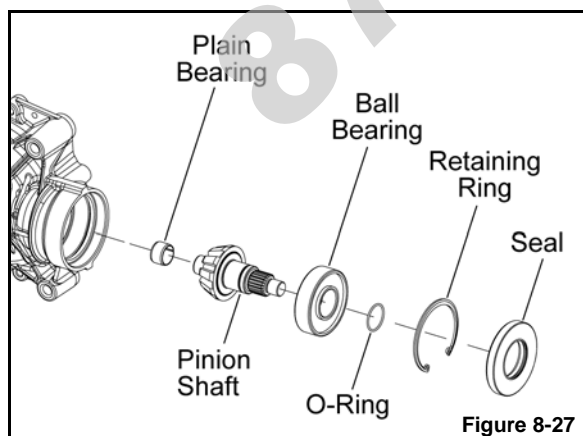

Figure 8-27
4. Remove the seal above the pinion shaft using a seal puller or other suitable method (see Figure 8-27).
5. Remove the retaining ring and lift the pinion shaft and bearing from the main gearcase (see Figure 8-27).
6. Support the pinion shaft and press the bearing off the shaft (see Figure 8-27).
8. Support the pinion shaft and carefully press the new bearing on the shaft and install a NEW O-ring (see Figure 8-27).